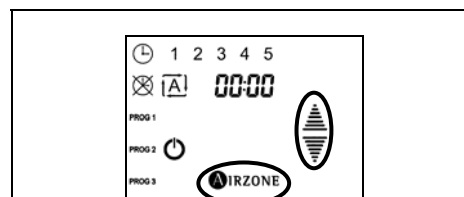

Fig. 28 - Select the start time
- 6) Select the hour of the start time using the selection arrows and confirm it by pressing once on the AIRZONE icon once (Fig. 28).
- 7) Select the minutes of the start time using the selection arrows and confirm it by pressing once on the AIRZONE icon (Fig. 28).